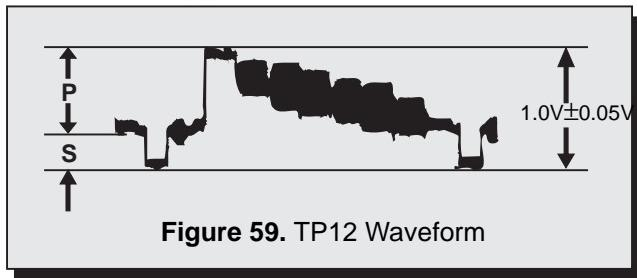

Figure 59. TP12 Waveform
2. Confirm that the peak-sync of PIP signal is $1.0 \pm 0.05\text{V}_{\text{P-P}}$. See Figure 59.